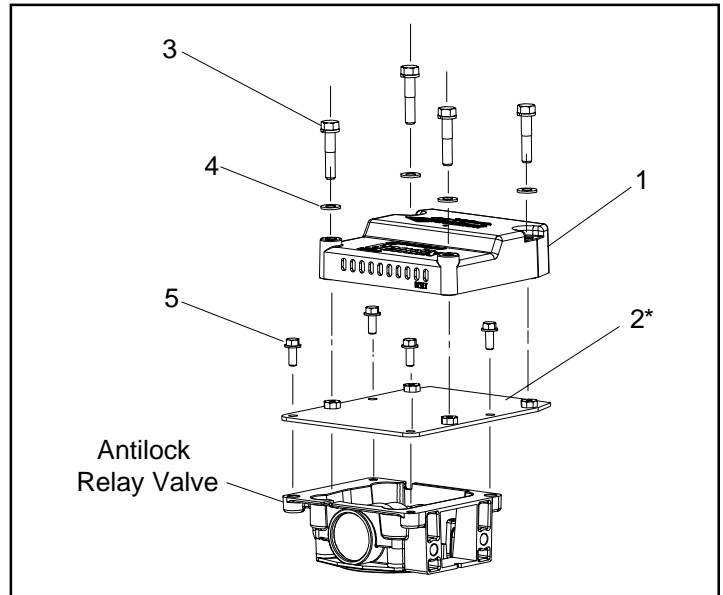
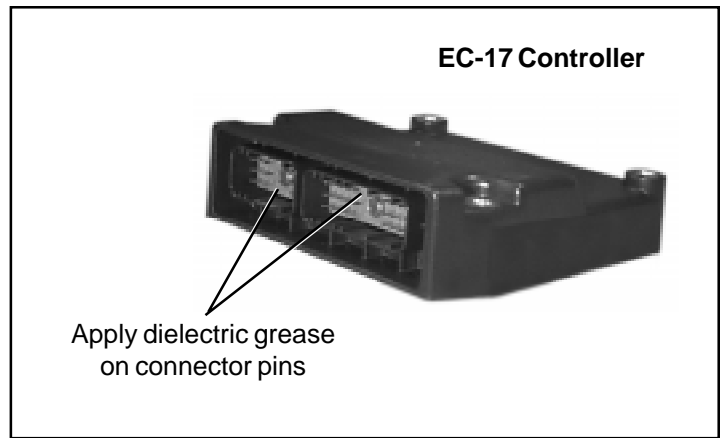

Figure 2 Typical EC-17 Controller Relay Assembly
Figure 3 Dielectric Grease Application
1. After noting the relationship of the positioning marks made prior to disassembly place the controller on the relay valve. While holding the EC-17 in place verify that the wiring harness length is adequate for assembly. The EC-17 controller is approximately 2 1/2 inches shorter in length than the EC-16 controller. If the wiring harness length is adequate proceed to step 3. An adapter plate(2), reference figure 2, is included to facilitate the installation in the event that the wiring harness is not long enough to connect to the EC-17 controller.
2. Install the adapter plate(2) with the four bosses (weld nuts) away from the antilock relay valve as indicated in figure 2. Align the four mounting holes without bosses with the four tapped holes on the body of the valve or remote mounting bracket. The tapered end of the plate will extend about 2 1/2" beyond the valve. Secure with the 4 small bolts(5) and torque to 96 inch pounds.
3. Secure the EC-17 controller(1) to the antilock relay valve, adapter plate, or vehicle member (in the case of remote mounted controller), using the four new long bolts(3), and spacers(4) provided. Torque the bolts to 96 inch pounds.
4. **BEFORE CONNECTING THE WIRE HARNESSSES** to the controller assembly, it is necessary to apply a dielectric grease (contained in kit) to the PINS of the wire harness or controller. See figure 3. The purpose of the dielectric grease is to inhibit corrosion from forming between the metal surfaces of the pin and its socket. Apply the grease so that each pin of the connector is coated when the connector halves are assembled.